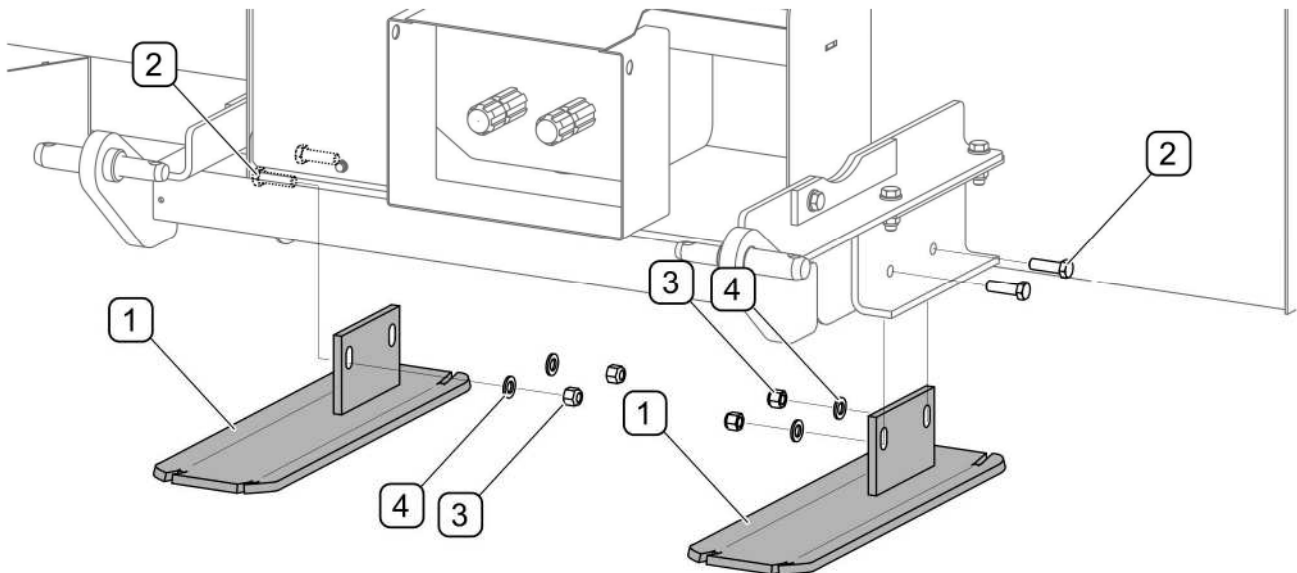

FIG. 5.5 Skid adjustment and replacement
Excessively worn or damaged skids must be replaced. In order to do this raise the snowblower and support with sufficiently stable and strong supports. If the machine is hitched and raised on the three-point linkage, protect it from falling and immobilise the tractor (turn off the engine and engage the parking brake.) Remove the nuts (4), remove the bolts (3) mounting skid (1) to the frame (FIG. 5.5). Check skid check for damage or excessive wear. The list of skid elements with catalogue numbers is shown in TAB. 5.3.